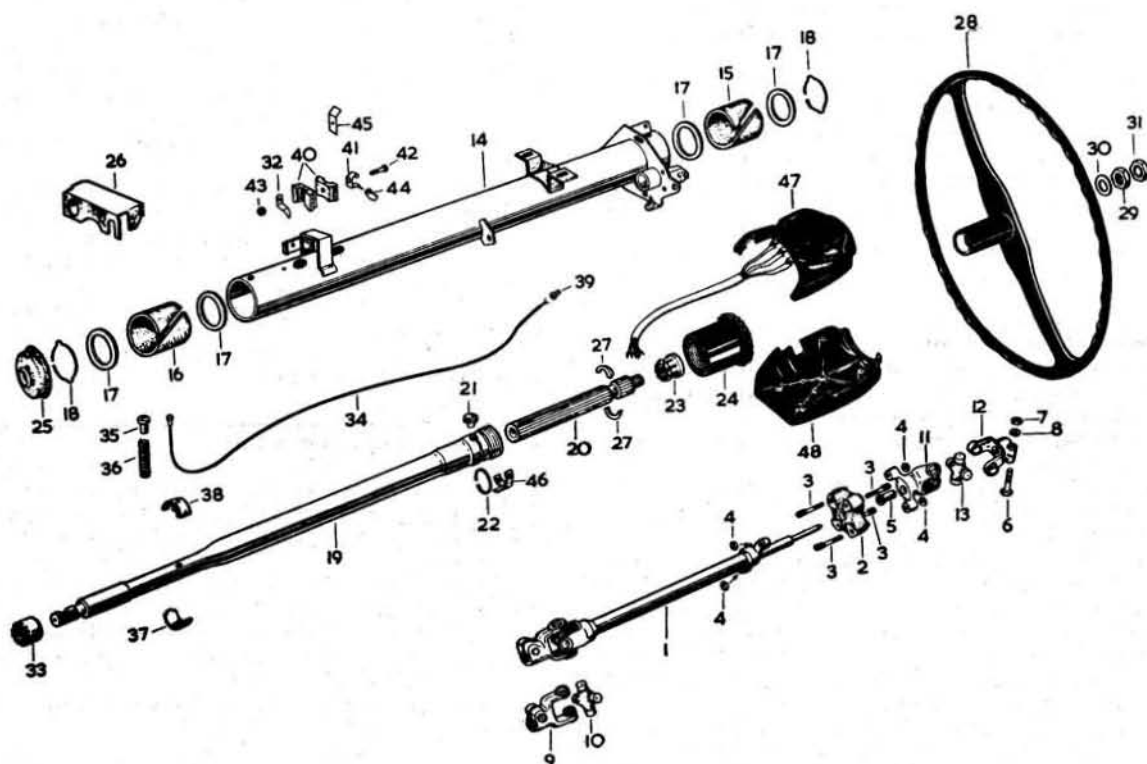

FIG.11.25. TYPICAL STEERING COLUMN ASSEMBLY
2 Refer to Fig.11.25 which gives an exploded view of a typical steering column assembly.
7 Remove the split collet (item 23 in Fig.11.25).
9 Carefully prise up the horn pick-up ring serrations and slide the ring off the rubber rotor (items 37 and 38 in Fig.11.25).
1 Figures in brackets refer to the items depicted in Fig.11.25.
3 There is a later type lower steering column to that illustrated in Fig.11.25 but it is used on standard steering only. It has a different flange yoke assembly, end yoke and journal assembly. The journal assembly takes two replaceable nylon rollers and to remove these, take off their securing circlips and slide off the rollers. There is no difference on the removal and refitting of this later type column.